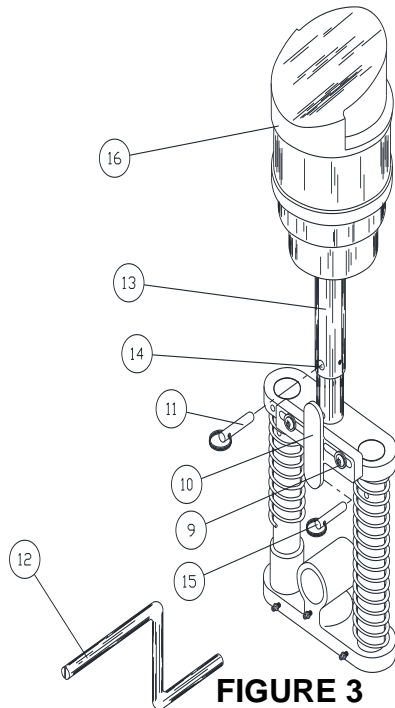

FIGURE 3
WHEN RE-ASSEMBLING, DO NOT OVER TIGHTEN ANY OF THE SCREWS, AS THIS TENDS TO STRIP THREADS CAUSING PROBLEMS IN THE FUTURE. BE SURE RING ON PIN (11) OF FIGURE 3 IS SECURELY FASTENED OVER LATCH (10). THIS WILL PREVENT LATCH FROM MOVING, SHOULD THE SOCKET HEAD SCREWS (9) LOOSEN DURING OPERATION.
YOU MAY FIND UPON INSPECTION OF THE PISTON THAT THE DOUGH HAS SEEPED INTO THE CUP. THIS IS A NORMAL OCCURRENCE AFTER MODERATE PRODUCTION. TO KEEP THE RUBBER "O" RING FROM PREMATURELY DETERIORATING, STRETCHING OR BREAKING, INSPECT AND CLEAN EVERY (4) WEEKS IN THE FOLLOWING MANNER, (FIG. 3). DISASSEMBLE THE PISTON BY REMOVING THE HEX NUTS ON THE BASE OF THE PISTON ASSEMBLY. REMOVE THE STEEL WASHER (PART NO. 302PY) AND PLASTIC PISTON RING (PART NO. 323PY). CAREFULLY CLEAN EXCESS DOUGH FROM THE PISTON AND "O" RING. REASSEMBLE THE PISTON BEING CAREFUL NOT TO OVERTIGHTEN THE PISTON RING.